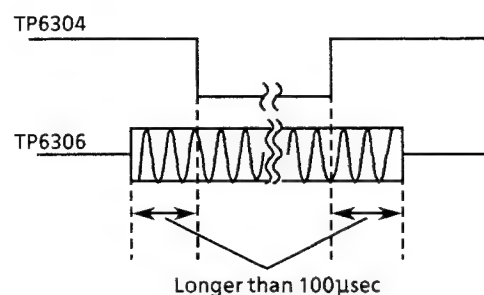

Figure 2-22
- (1) Connect a dual trace oscilloscope with delayed sweep to test points TP6304 (A.HSP) and TP6306.
- (2) Play the Hi-Fi test tape.
- (3) Using delayed sweep, observe the waveform around the timing of leading edge and trailing edge of the audio head switching pulse.
- (4) Make sure that the envelope on TP6306 is at least 100μsec wider than the audio head switching pulse at both edges as shown in Figure 2-22. If it is out of specified value, verify the HEAD SWITCHING POINT adjustment (Step 4-1) and the A/C HEAD POSITION adjustment (Step 3-8).